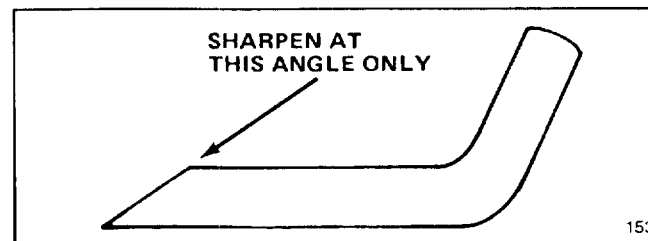

Figure 15
6. **SHARPENING BLADE** -- Using a file, sharpen top side of blade (side facing mower housing) and maintain original cutting angle (Fig. 15). The blade will remain balanced if the same amount of material is removed from both cutting edges.